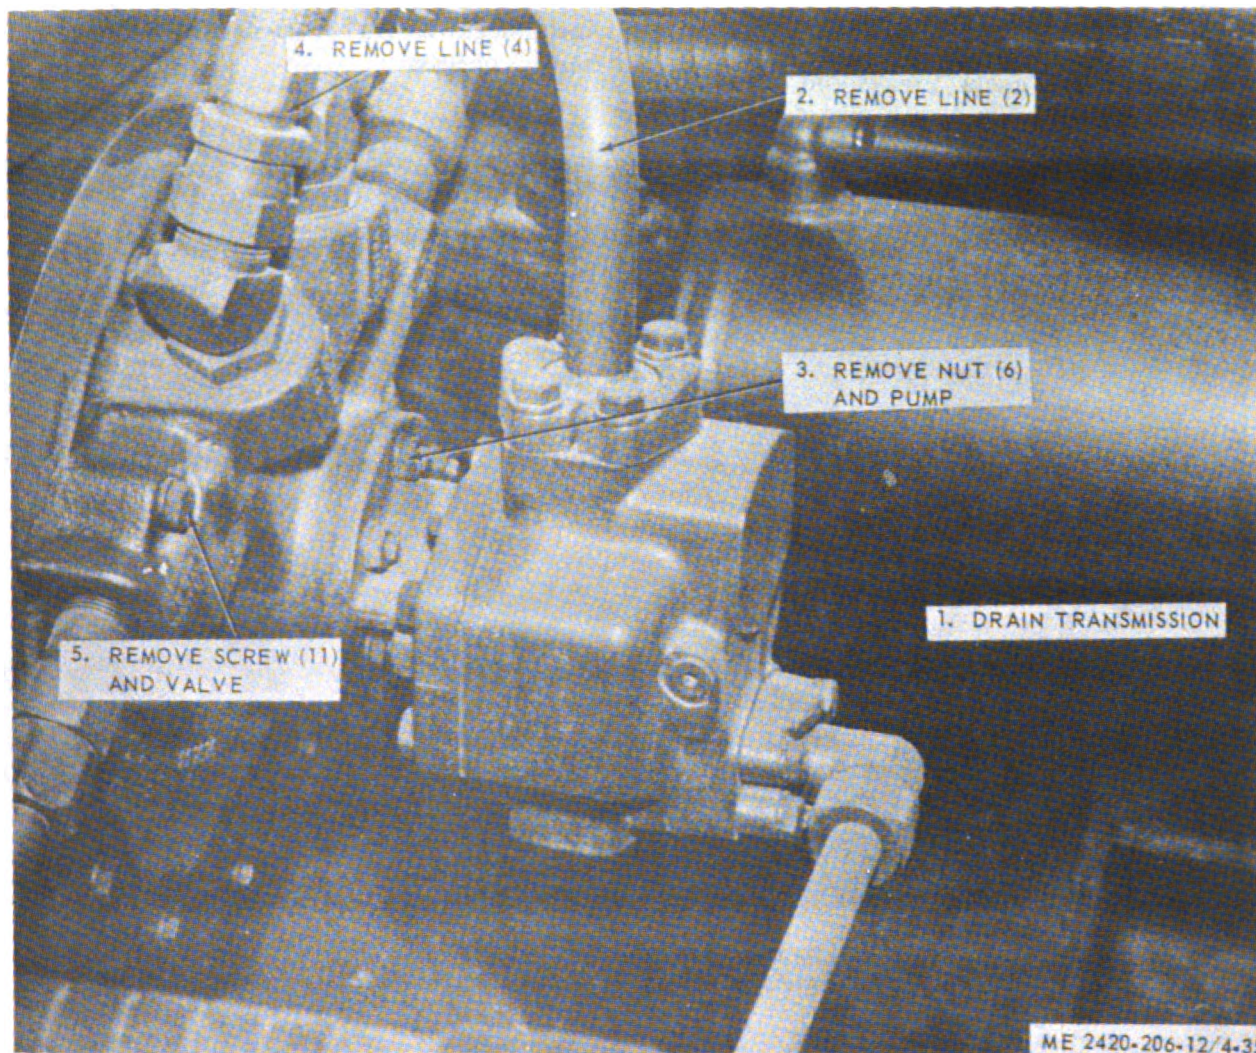

Figure 4-35. Push start pump and valve, removal and installation.
a. Removal. Remove pump and valve as illustrated in figure 4-35.
- (1) Clean exterior and dry thoroughly.
- (2) Inspect for cracks, breaks, and other dam-
c. Installation. Install valve and pump as illustrated in figure 4-35. Replace push start pump gasket.